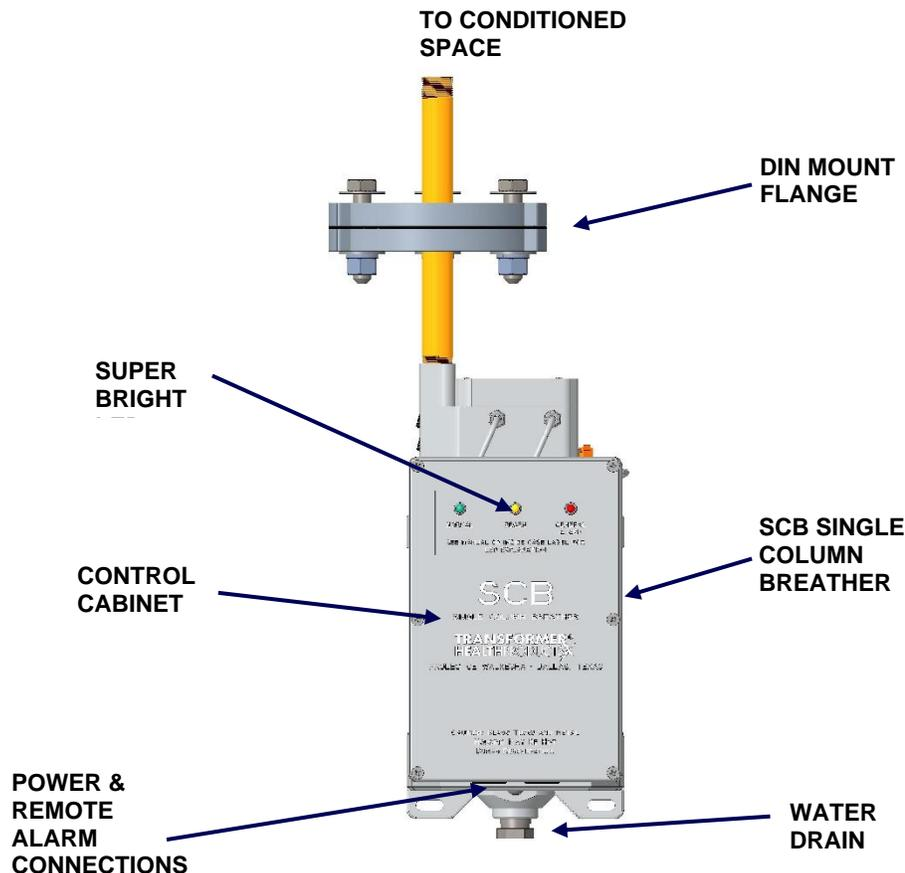

Figure 6 – Typical SCB Flange Installation
3. See Figure 6 below for a typical flange installation.